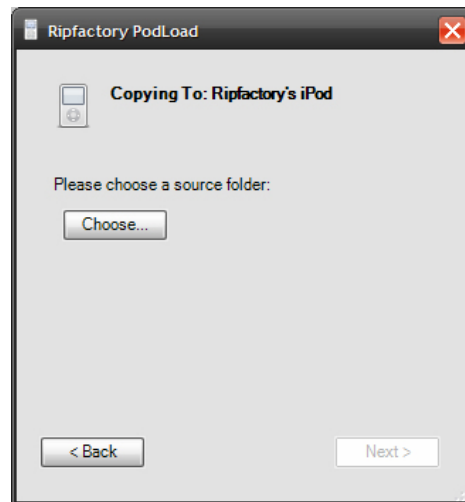

Figure 4.23 – Third screen of Podload Wizard
- Click Next and select the folder containing the collection you wish to transfer via the windows explorer dialog (see figure 4.23).